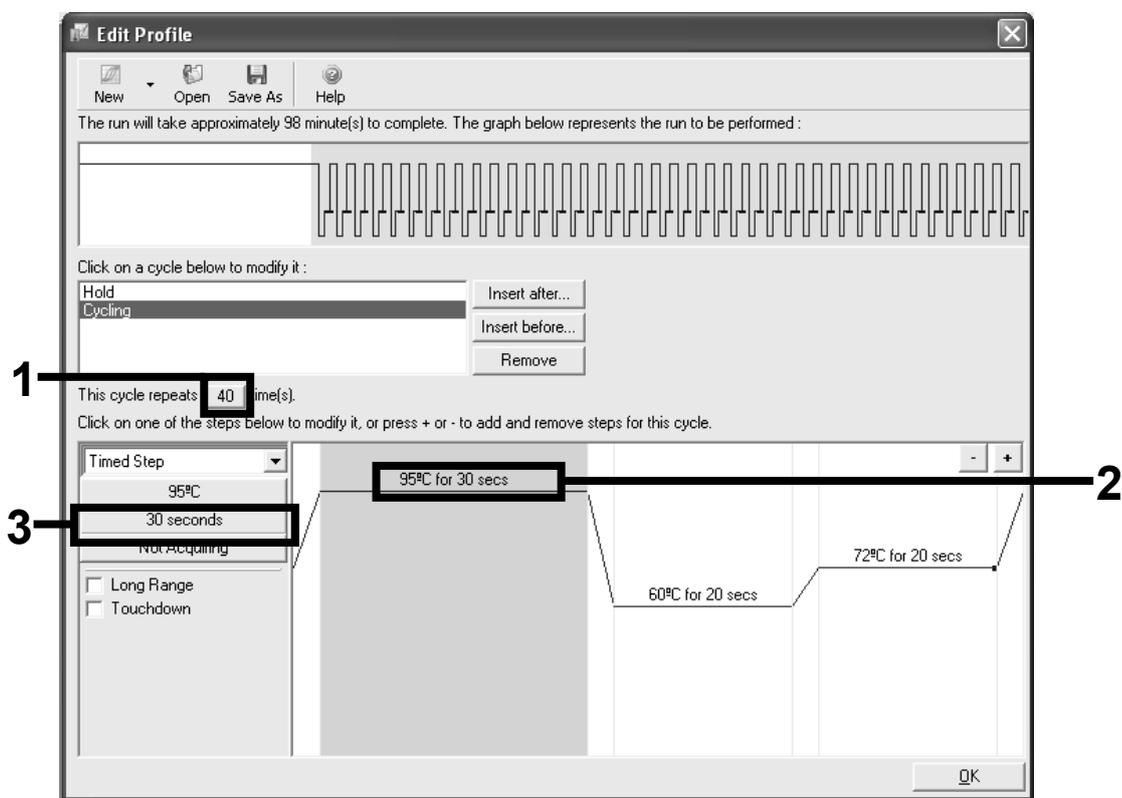

Figure 6. Cycling step at 95°C.
Amplification of the DNA	Figures 6, 7
- Change the number of cycle repeats to 40. Select the first step, and set to 95°C for 30 seconds (Figure 6).